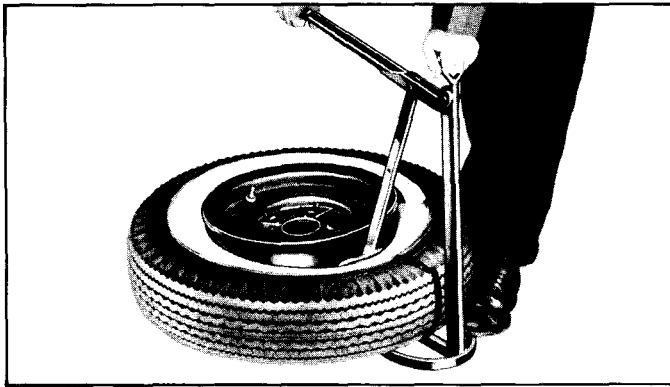

Fig. 1-1—Beed Loosening Tool—Typical—(60C-2801)
2. Loosen the tire beads with the tool shown in figure 1-1.